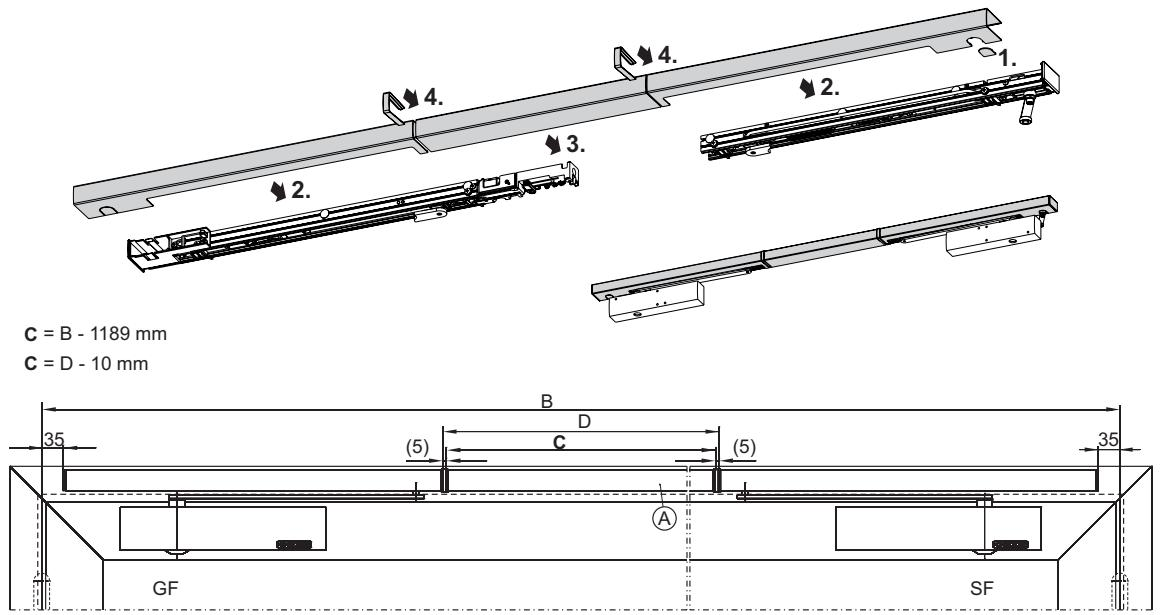

Fig. 6.8.1
- ▶ Shorten adjustable-size middle cover panel "A" to size "C" (**Fig. 6.8.1**).